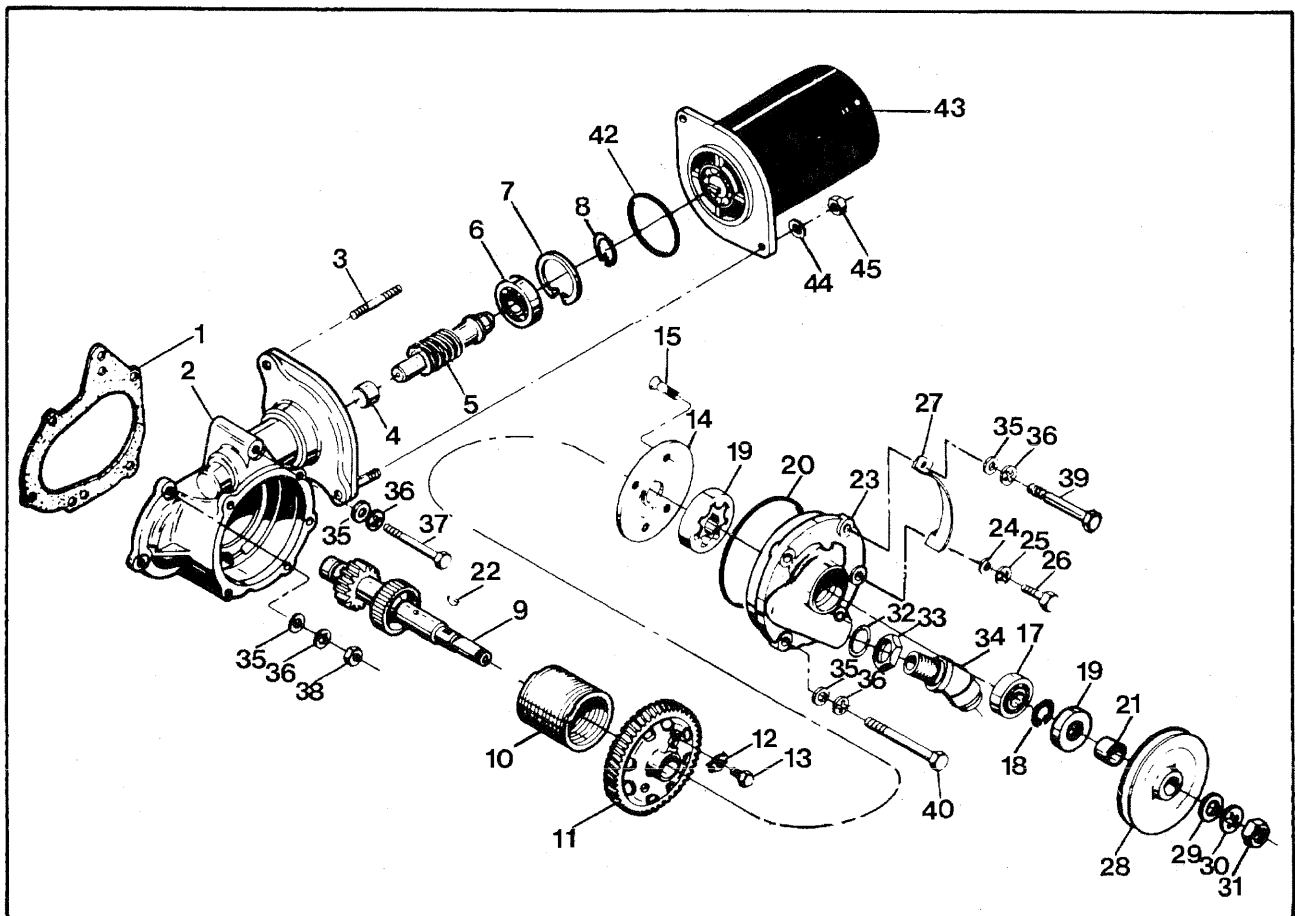

FIGURE 18-2
(See Figure 18-2)
a. Except that the "AE" models do not have a steel sleeve and the shaft and worm gear are one piece, items 2 thru 13 are reassembled the same as the sandcast engine starter adapters.
b. Install ball bearing (17) and secure with snap ring (18). Install new oil seal (19).
c. Install woodruff key (22) and gerotor (19) in scavenge pump cavity and secure cover (14) to housing (23) with screws (15). Screws (15) are to be installed using Loctite 222 and torqued to 75-85 in. lbs.
d. Install sleeve (21) and sheave (28). Secure sheave with attaching parts (29,20,31): Torque nut (31) to 500-550 in. lbs. The timing marks on the end of the shaft (ref. page 4 Figure 18-2 item 9) and the mark on the sheave (28) must be matched when installing the sheave.